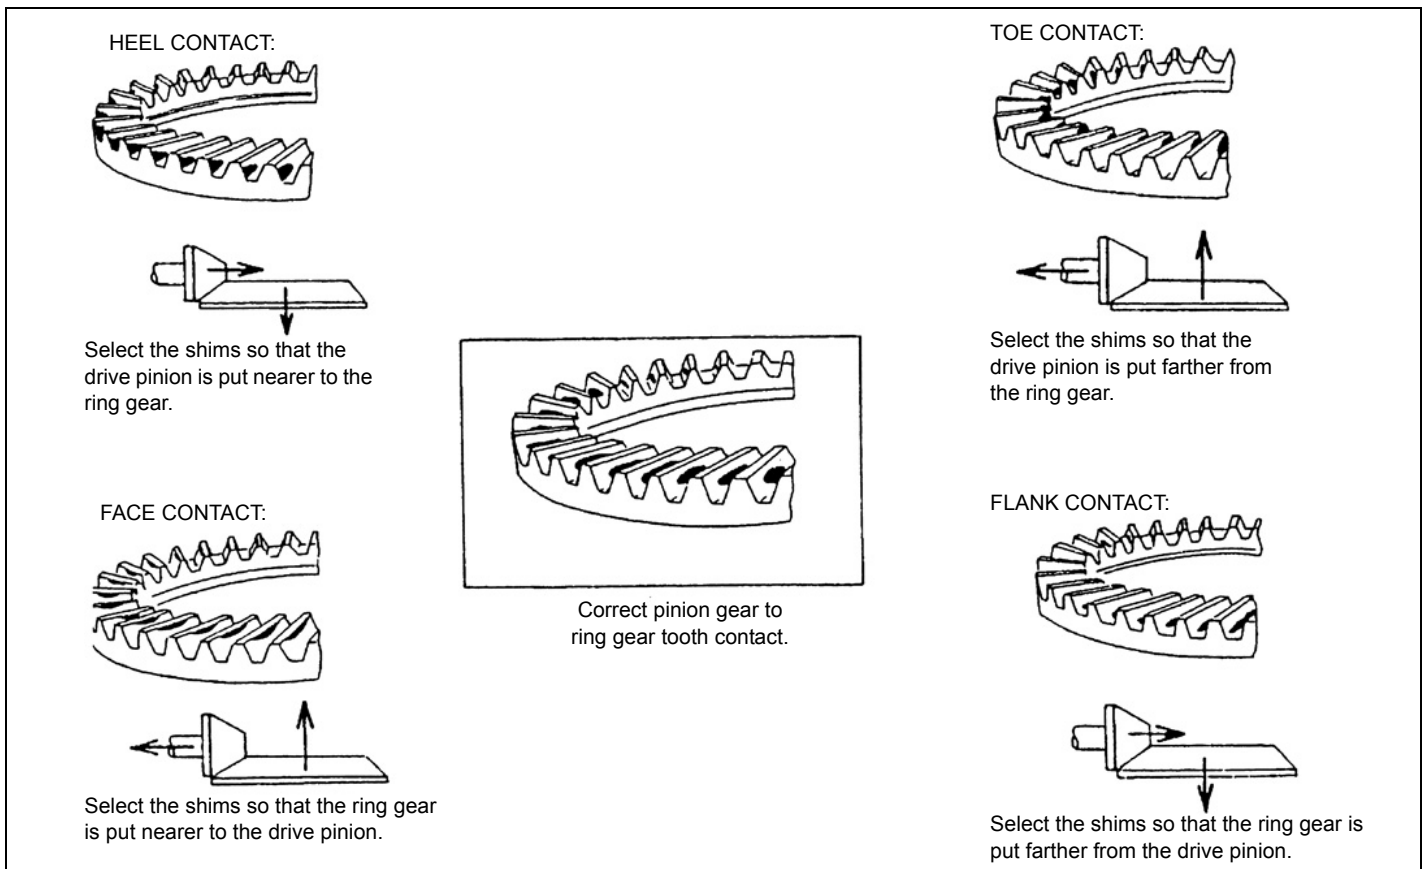

Figure 2-81
4. Inspect the drive pinion to ring gear tooth wear pattern. See Figure 2-81, for wear indications and shimming adjustments.